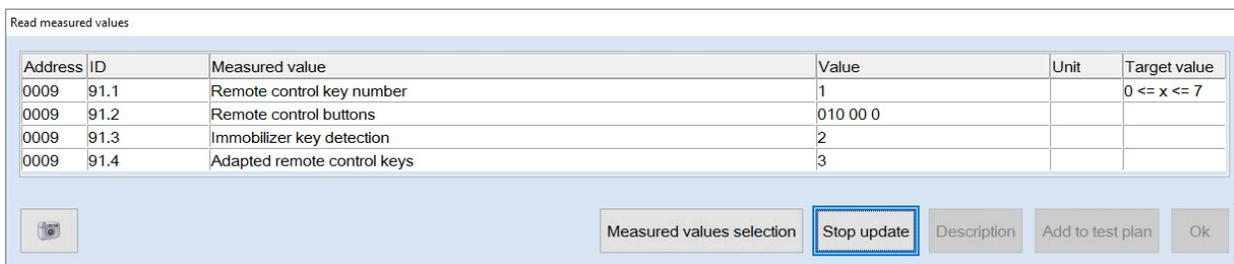

Figure 13. Read measured value menu.
- Using Figure 13 as an example, you can see the system has identified key number 1.
- Using Figure 13 as an example, you can see the system recognized that the lock button was pressed.
- Using Figure 13 as an example, you can see the immobilizer is authenticated against key number 2.
- Using Figure 13 as an example, you can see there are three keys adapted to this vehicle.